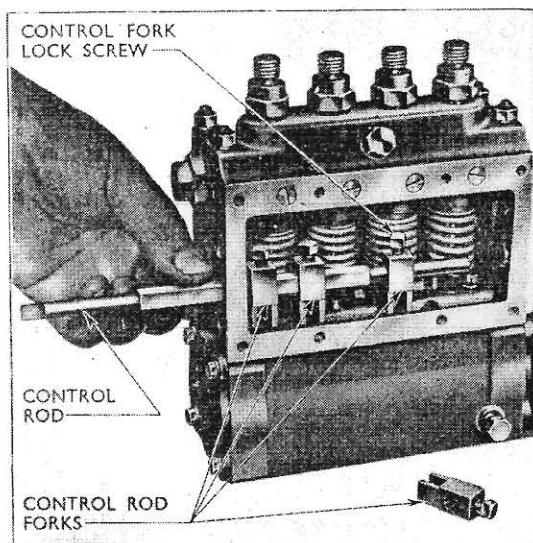

Fig. 14.
8. Loosen the screws which lock the control forks to the control rod and withdraw the rod from the rear of the pump (see Fig. 14.)